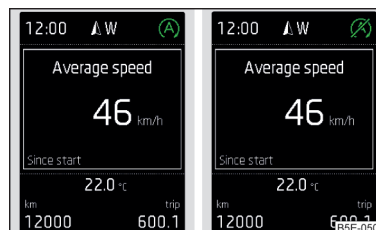

Fig. 152
If, after stopping the vehicle, the check icon  » Fig. 152 appears on the display, then the conditions for automatic engine shutdown are not met.
Automatic engine shutdown then occurs and the indicator symbol appears in the display (A) » Fig. 152 on page 155.